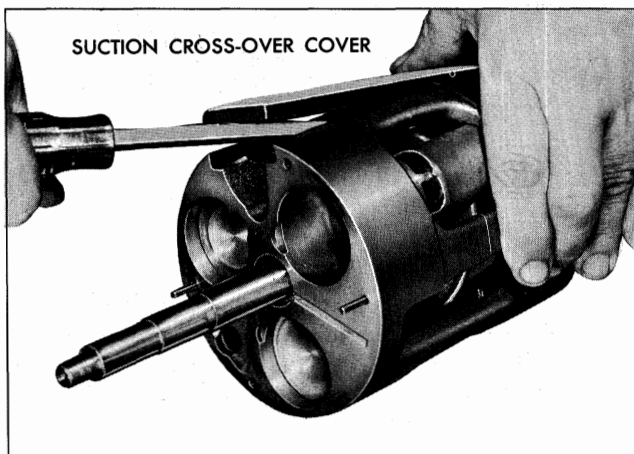

Fig. 5-12 Removing Suction Crossover Cover
11. Remove suction crossover plate as shown in Fig. 5-12 and discard gasket.